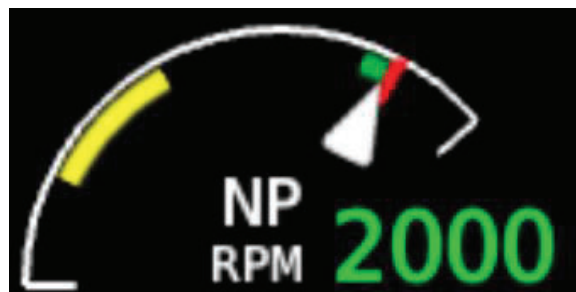

Figure 5: Propeller tachometer after software installation
- (1) Install the 5D3-NK366A1(Y)( )/91D17(B) propeller and 109044(P) spinner in accordance with the current Kodiak 100 series aircraft Airplane Maintenance Manual procedures.
- (2) Update avionics propeller RPM tachometer display according to Section E: and ensure the following (see Figure 5 for example):
- (3) Adjust main governor according to Section C of this document.
- (4) Adjust overspeed governor according to Section D of this document.
- (5) Attach Hartzell Propeller LLC Airplane Flight Manual Supplement AFMS-030822 to the Pilot's Operating Handbook and FAA Approved Airplane Flight Manual.
- (6) Update AFM equipment list with the appropriate information below: